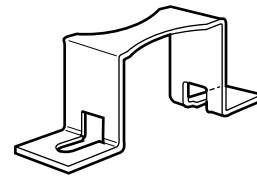

Figure 6. Stainless steel U-strap.
- Place one supplied U-strap (Figure 6) between each post of the loadbreak junction and using the supplied 5/16" hardware attach U-straps to apparatus mounting plate, securing the loadbreak junction in place.